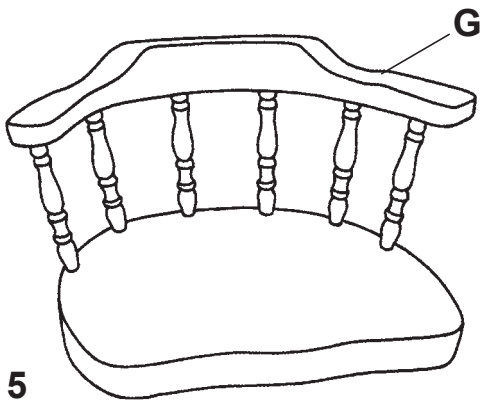

FIG. 5
- 5) Start by applying glue evenly in each spindle hole in the Back (G). (Apply glue carefully, as it may drip out before you have put the back in place). Begin on one side, gently tapping the back rest onto each spindle until you have worked your way around to the opposite side, as shown in FIGURE 5. Check to see that the back is all the way down on each spindle before you set the assembly aside to dry.